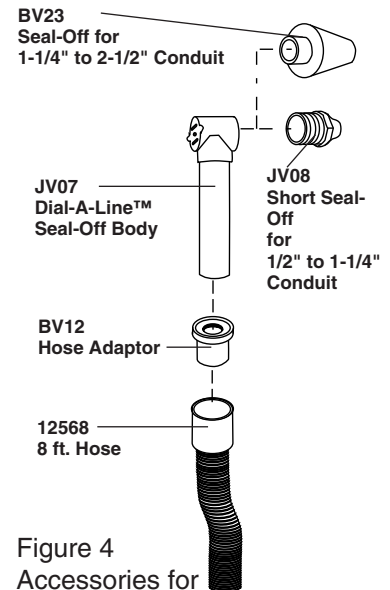

Figure 4
- Injecting bulk line into 1/2 to 2-1/2" conduit requires the JV07 Dial-A-Line body, BV12 adaptor and either the JV08 or BV23 seal-off (see Figure 4).